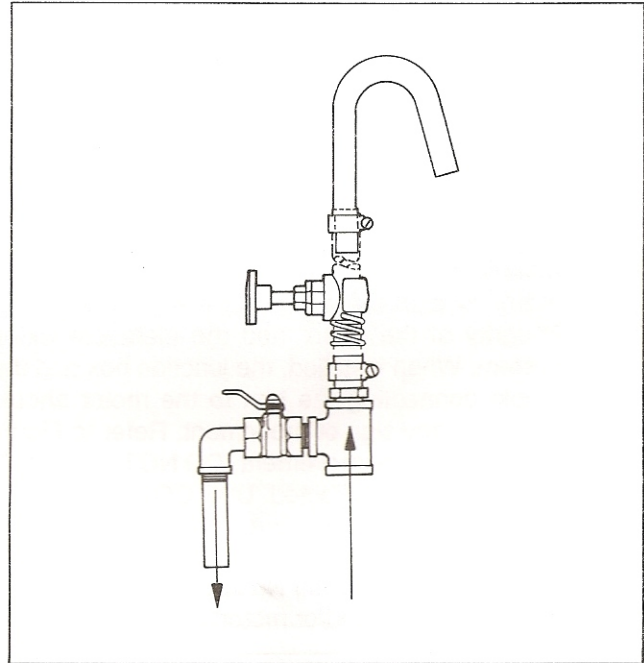

Figure 6. Type B2 System
- b. **Type B2 By-Pass (Figure 6):** Consists of tee, return piping to tank with 1/2" butterfly valve, 3/4" slip-on hose fitting, 8" steel wire spring to prevent kinking, pinch valve, 2 (two) stainless hose clamps, hook-over nozzle. All parts nickel plated.